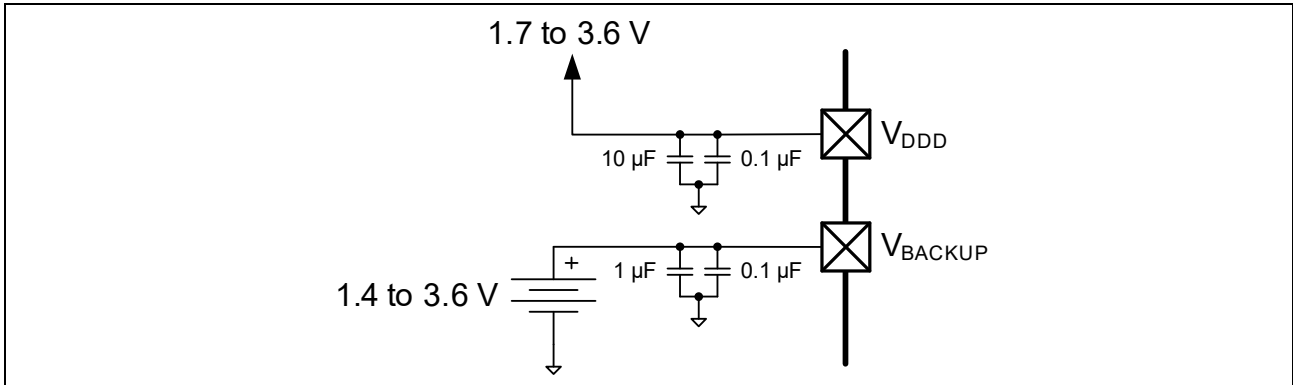

Figure 16 Separate Battery Connection to V_{BACKUP}
- V_{BACKUP} : the supply for the backup domain, which includes the 32-kHz WCO and the RTC. It can be a separate supply as low as 1.4 V, for battery or supercapacitor backup, as **Figure 16** shows. Otherwise it is connected to V_{DDD} . It powers I/O port 0.